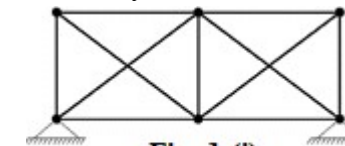

Fig. 1 (i)
- Q.1 i. The degree of indeterminacy of the beam shown in Fig.1 (i) is: 1